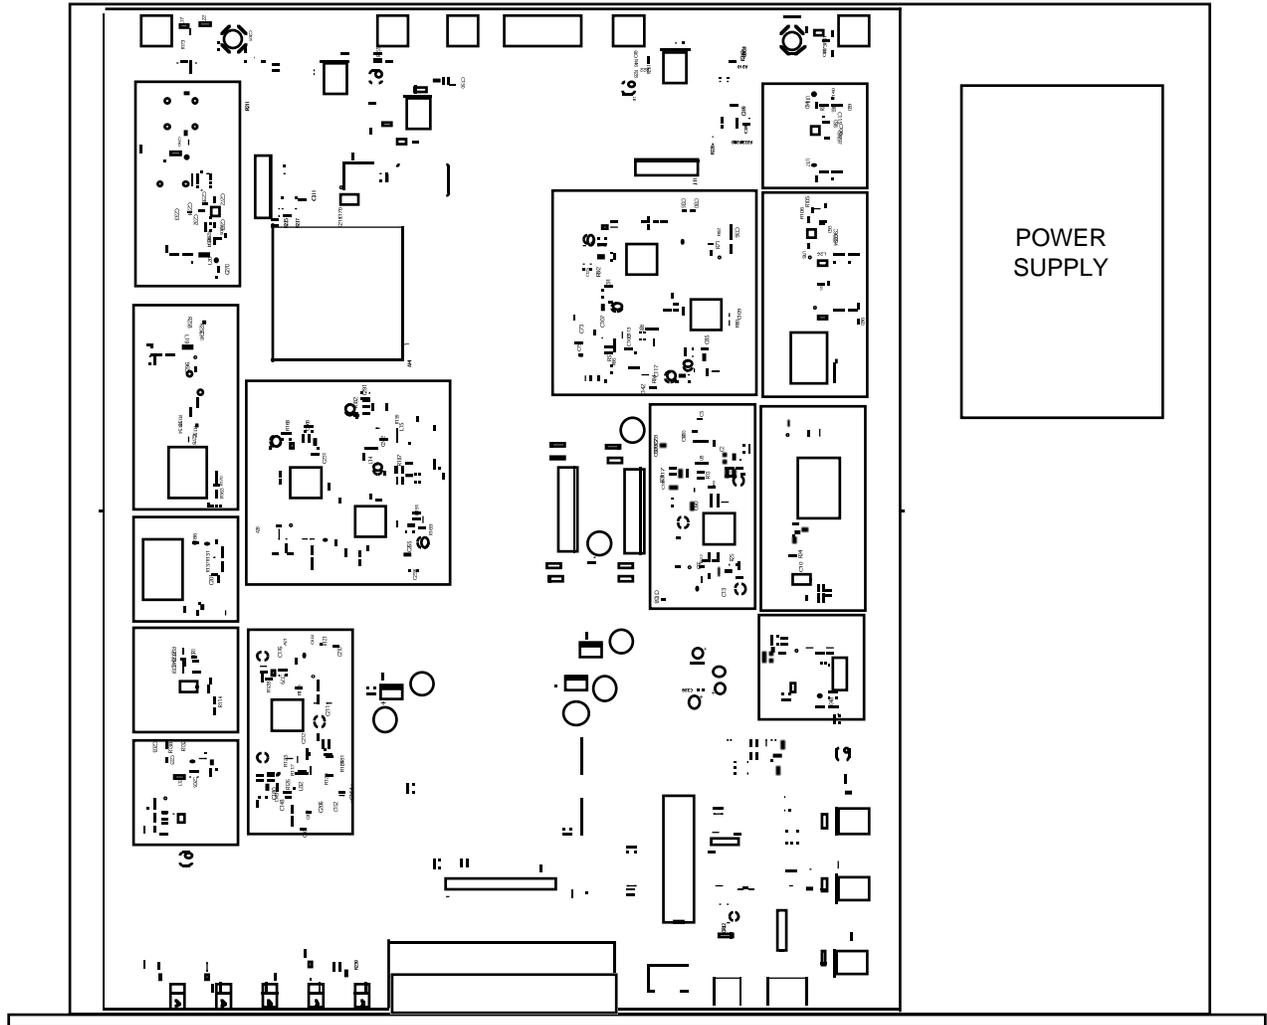

Figure 2.0 Model 2017-04A Mechanical Assembly
2.1 Mechanical - The 2017-04A consists of one RF/Controller PCB housed in a 1 RU (1 3/4 inch high) by 16 inch deep chassis. A switching, ± 12 , $+5$, $+24$ VDC power supply provides power for the assemblies. The 2017-04A can be secured to a rack using the 4 holes on the front panel. Figure 2.0 shows how the 2017-04A is assembled.